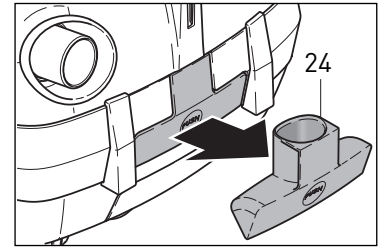
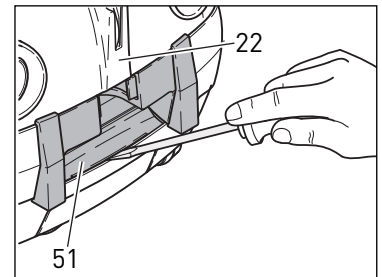
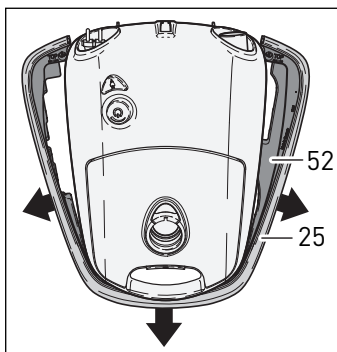

Figure 27
Figure 28
Figure 30
To remove the AIRBELT system (25 & 52), remove the upholstery tool from the rear of the machine (figure 27), and lever out the tool holder (51) using a slot-head screwdriver (figure 28). The AIRBELT system (25 & 52) can then be pried out of the recess with a screwdriver (figure 29) and removed by carefully sliding the assembly toward the front of the machine (figure 30). Remove the damaged cloth cover (25) from the foam bumper (52).